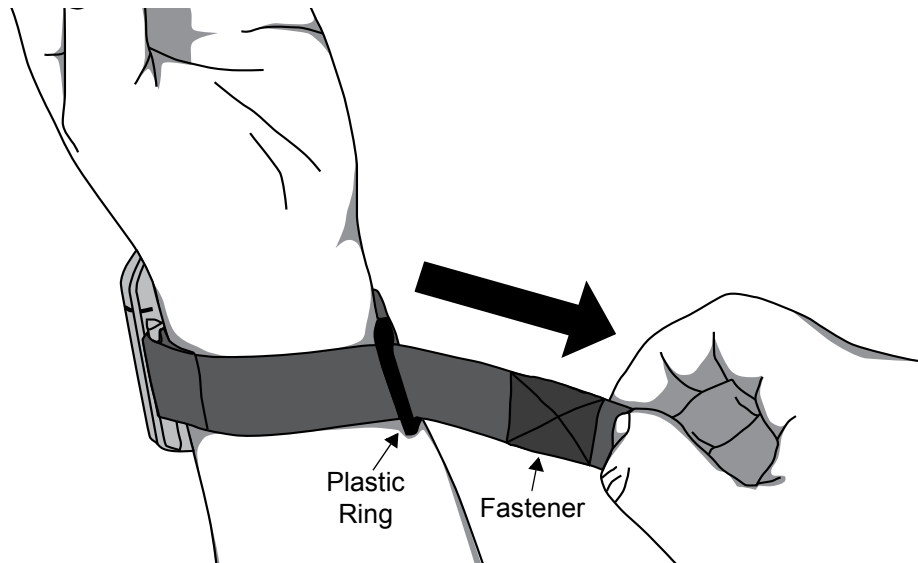

Figure 14: Thread and Tighten Two-Piece Wrist Band
3. Thread the rounded end of the adjustable strap through the plastic ring on the ring strap. Pull the adjustable strap through the plastic ring until the device fits comfortably on the wrist (figure 14).